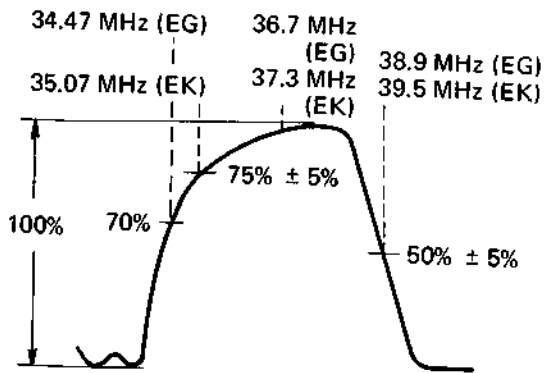

Fig. 3-5A VIF waveform
- 7) Adjust HLB cores 1 and 4 for maximum IF waveform, picture carrier 50% and color carrier 70% (EG), 75% (EK).
- 8) Adjust the tuner output transformer so that the waveform is maximum and appears as shown in Fig. 3-5A.